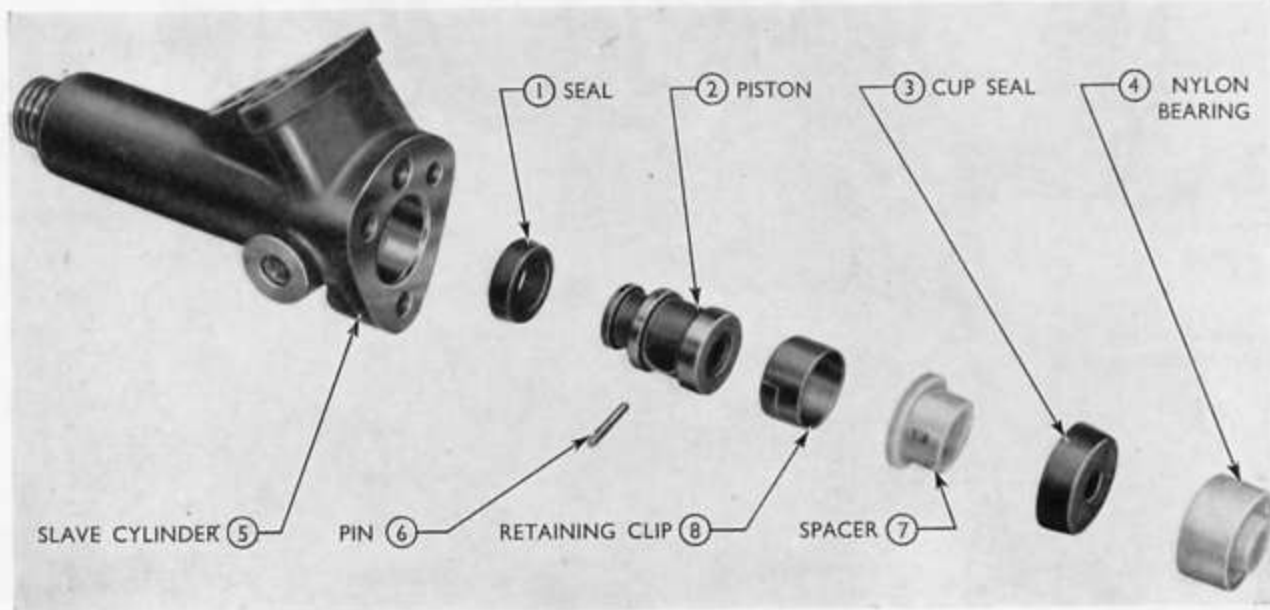

Fig. 26
2. Assemble the slave cylinder. Lubricate all components with clean brake fluid. Fit the slave cylinder piston seal and locate the piston on the push rod. Replace the retaining pin and the spring clip, ensuring that the spring inside the piston is compressed away from the piston seal. Slide the spacer, cup and nylon bearing onto the push rod in the same position as they were removed (see Fig. 26).